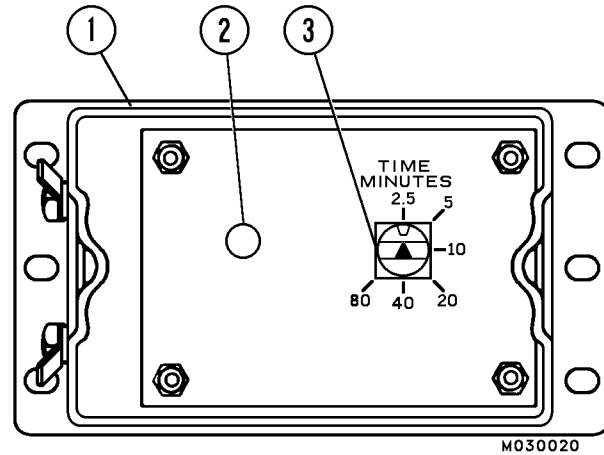

FIGURE 3-9. TIMER (TOP COVER REMOVED)
2. Adjust timer selector (3, Figure 3-9) to 5 minute interval setting.
The timer is factory set for a nominal 2.5 minute (off time) interval. Dwell time is approximately 1 minute, 15 seconds. A longer interval (off time) is obtained by turning the Selector knob (3, Figure 3-9) to the desired position .